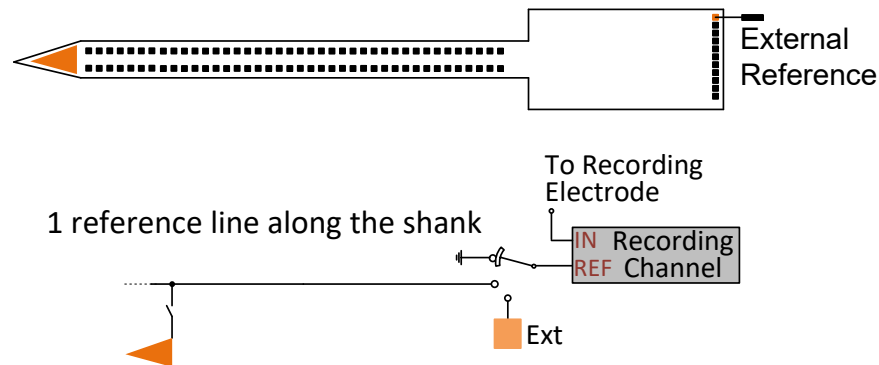

Figure 38: Reference selection
- Ground reference: the reference input is connected to the ground of the ASIC. This selection is an alternative for shorting the reference and ground pads on the flex arms. This configuration is intended to replace the use case where the user is shorting reference and ground on the flex arms by soldering. The reference selection is channel-independent, and each channel can only connect to one of the three reference inputs simultaneously (Figure 38).